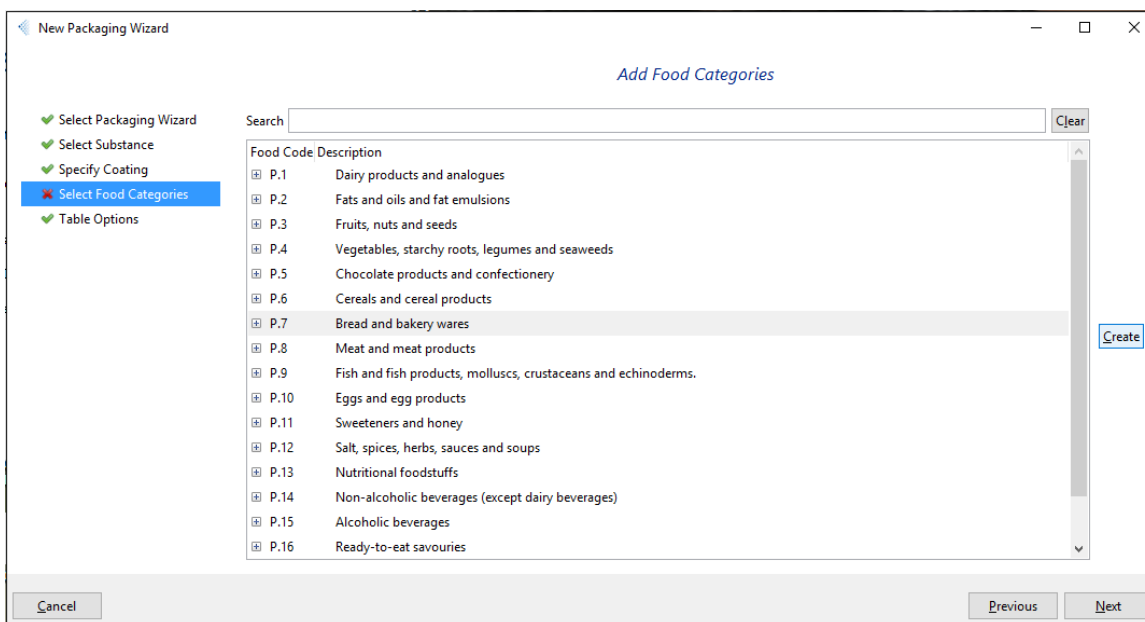
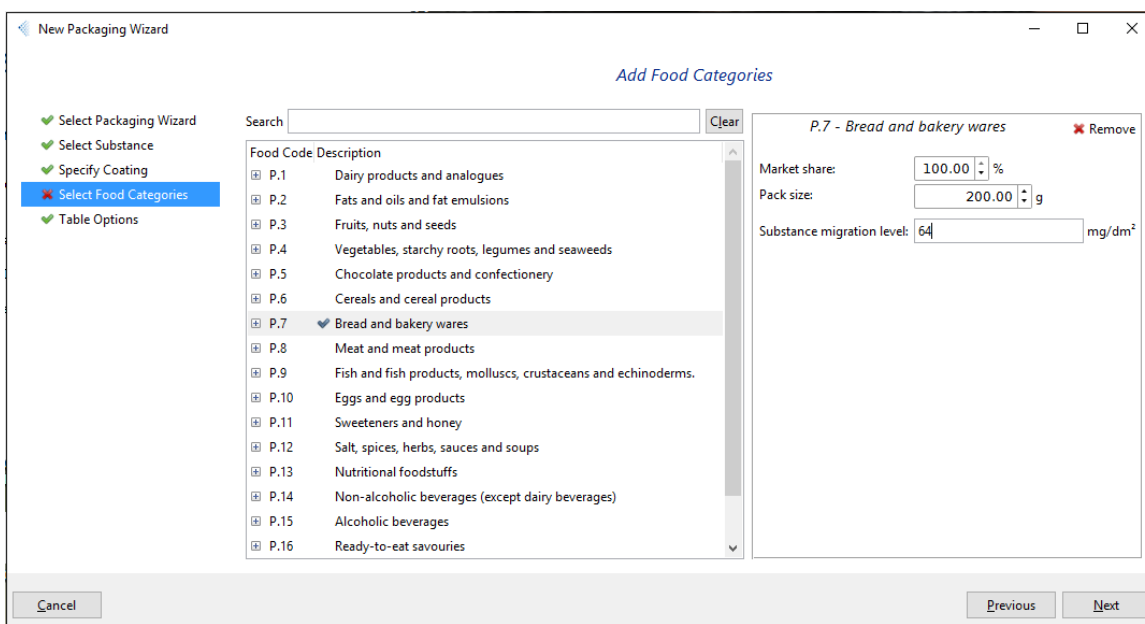

Figure 86: Select Food Category
Figure 87: Create a migration profile for the selected food
1. Select the foods to be used for the assessment and click on the Create Button shown in Figure 86. This will open a new panel on the left hand side (Figure 87).
2. At the top of the panel specific for the food category, enter a value to represent the market share the component has/ would have in the chosen food category (Figure 87).
3. Enter the weight of the pack that the new component will be/is used with (Figure 87).